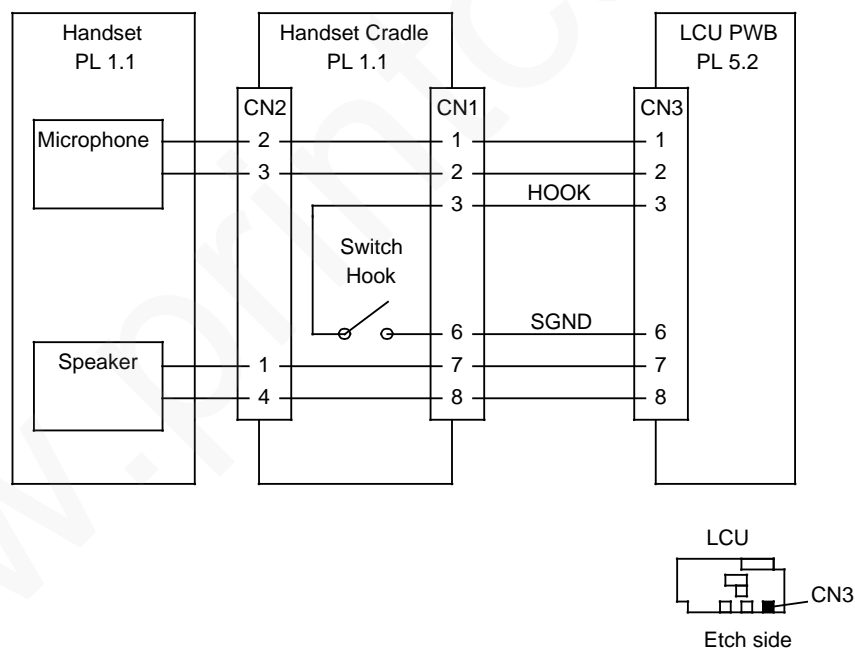

Figure 1. Handset
- Disconnect the handset cable from the LCU PWB. Measure the resistance across pins 3 and 6 of the handset cable (Figure 1).